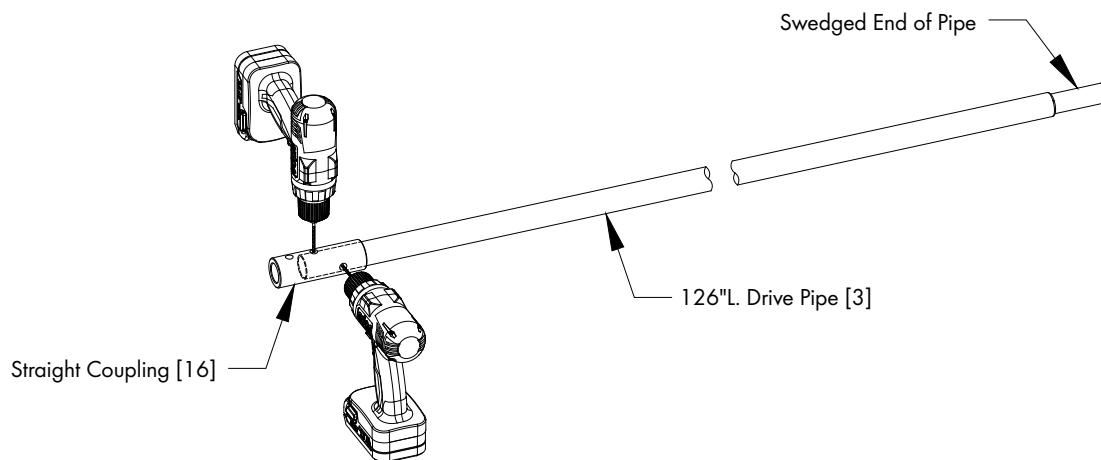

Figure 29
For the 126"L. Drive Pipe [3] that will be at the actuator end, slide the Straight Coupling [16] over the large end of the pipe so that the (2) holes are over the pipe. Then using these holes as a guide, drill (2) pilot holes through the pipe and then drill (2) 1³/₃₂" dia. holes through the pipe. See Figure 29.